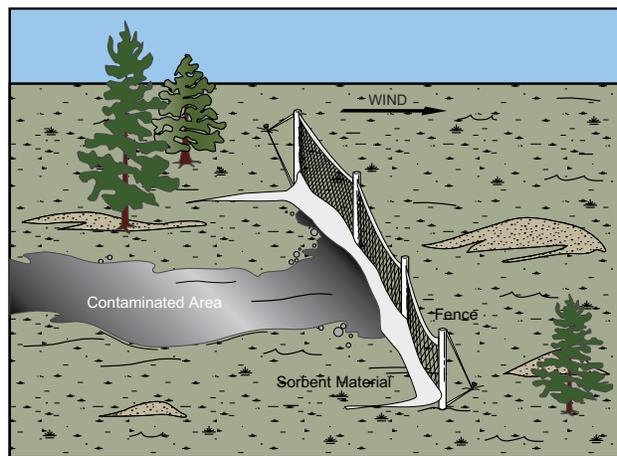

Figure OR-4. Oil containment and removal using sorbent material.
- Sorbents may be used in different configurations, such as loose or continuous materials. In cold weather environments oil can be incorporated with snow, using it as a sorbent material. Continuous material can be booms, pads, mops, pom-poms, etc. Loose materials are smaller particulates such as peat moss. Sorbents are spread over a spill and then removed with a vacuum or by raking and collecting (Figure OR-4). Sorbents should be minimized for larger spills due to the considerable solid waste stream that is produced. See the Passive Recovery tactic for further description.